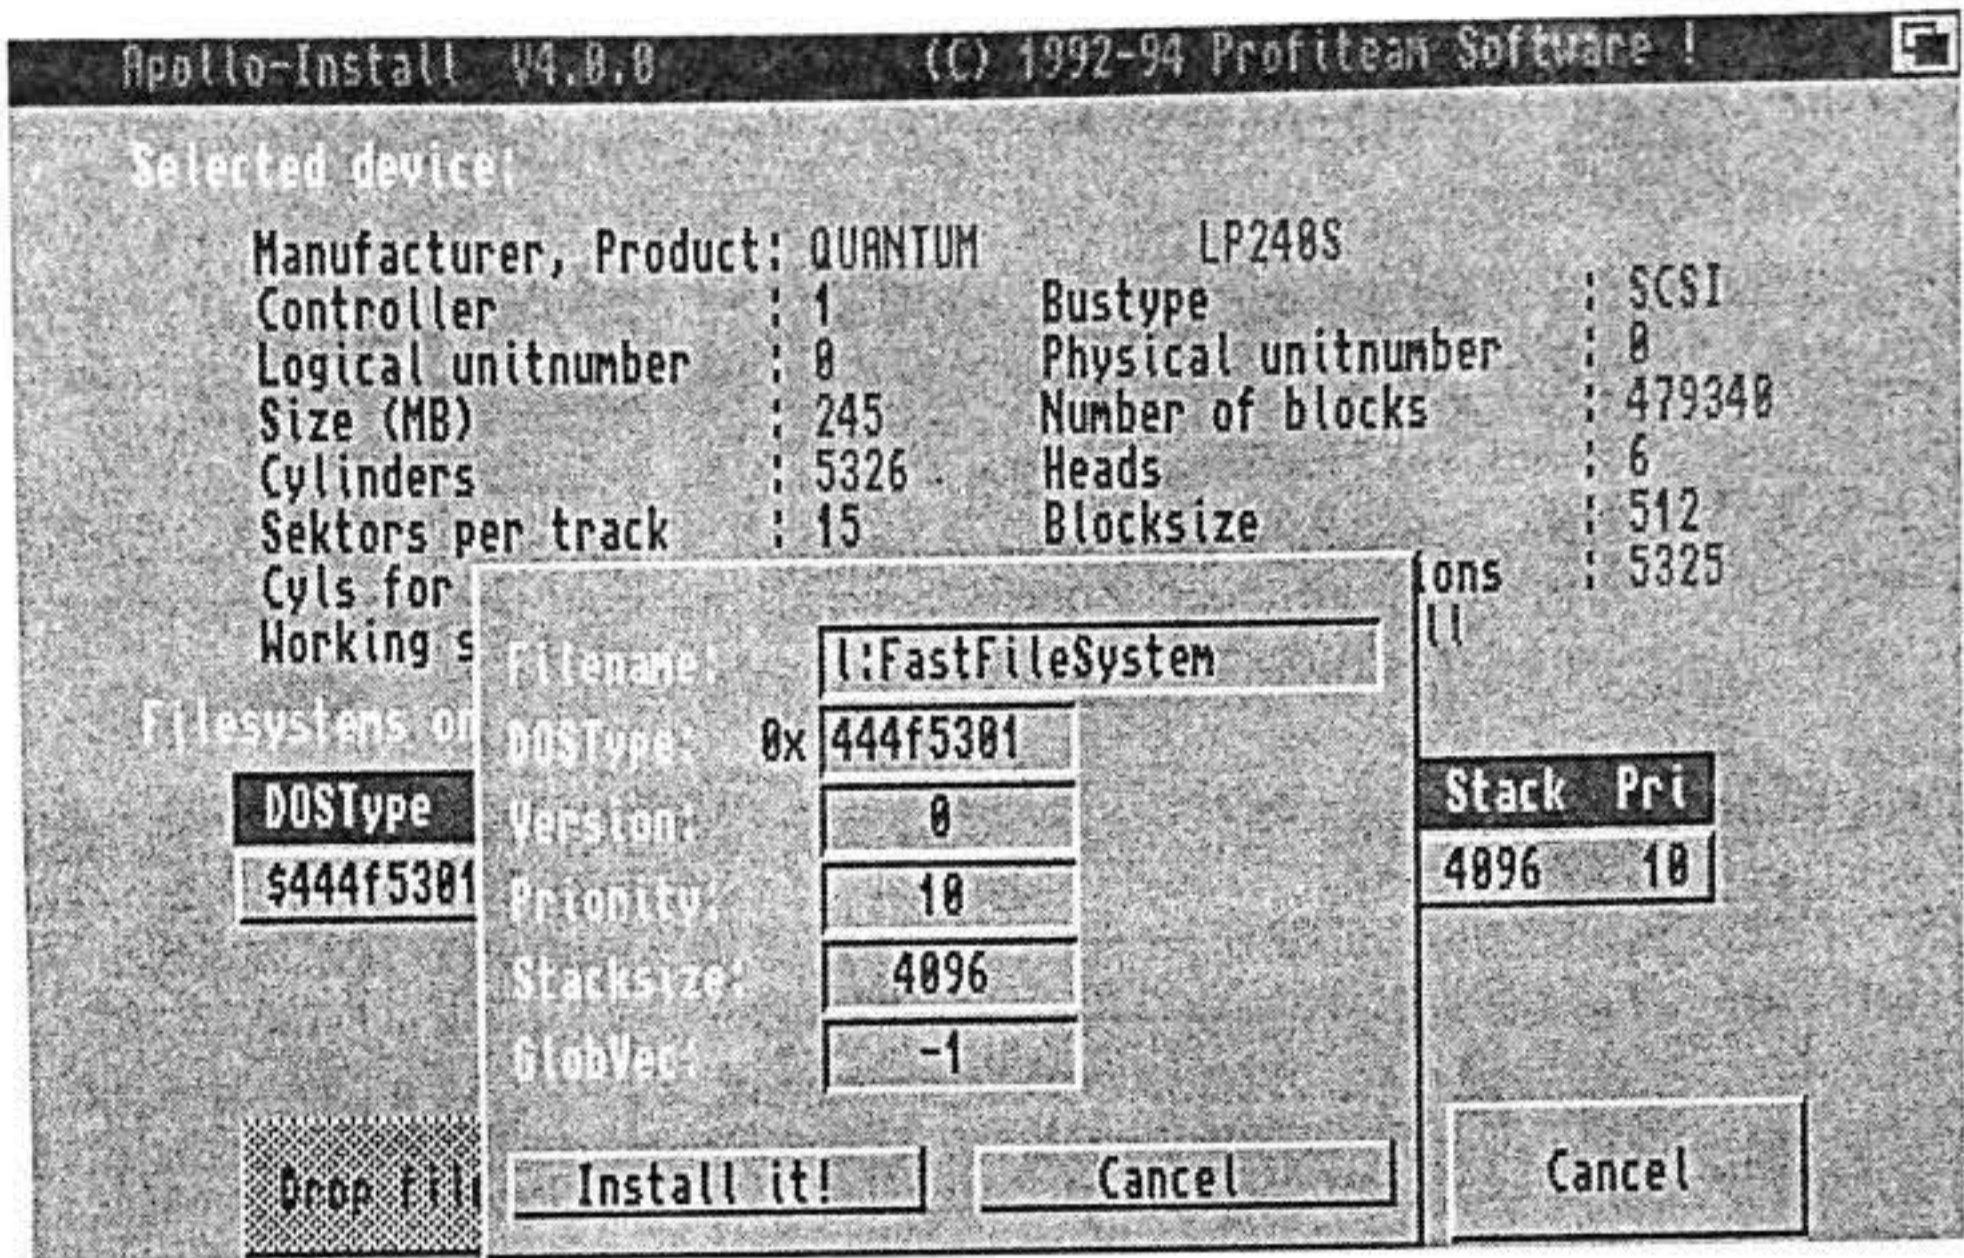

Figure 8: Installing a new filesystem
- To install a new filesystem click on the New filesys gadget. Then a window opens, in which you can specify which filesystem to load and set all its parameters (see figure 8). The default values of the entry fields are valid for the *FastFileSystem*. So if you want to install the latter, you only have to click on the Install it! gadget.